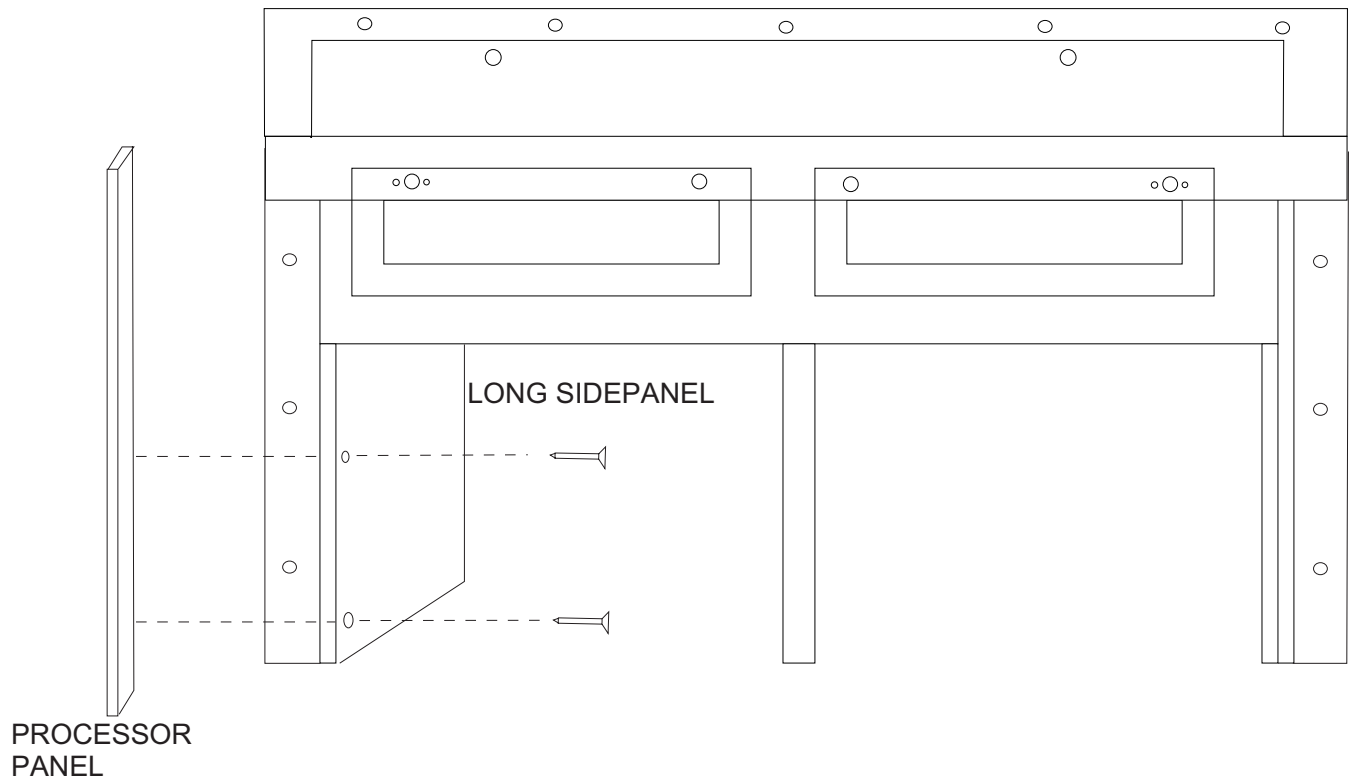

figure 14-10
- 48.** Mount the PROCESSOR PANEL to the LONG SIDE PANEL using two SCREWS 35 mm long (see FIGURE 14-10). The figure below shows the installation of the PROCESSOR at the left side.